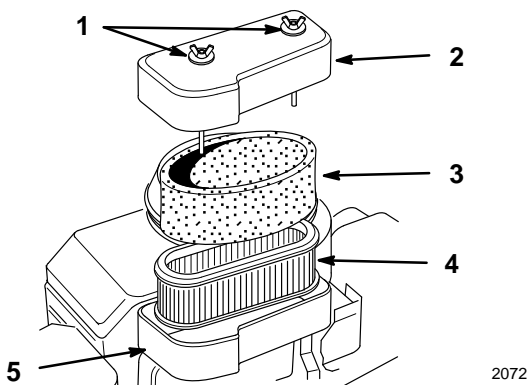

Figure 20
2. Clean around the air cleaner to prevent dirt from getting into the engine and causing damage. Unscrew the cover nuts and remove the air cleaner cover (Fig. 20).
3. Remove the air cleaner assembly (Fig. 20).
4. Carefully slide the foam element off the paper element (Fig. 20).
1. Carefully slide the foam element onto the paper air cleaner element (Fig. 20).
2. Place the air cleaner assembly onto the air cleaner base (Fig. 20).
3. Install the air cleaner cover and secure with cover nuts (Fig. 20).